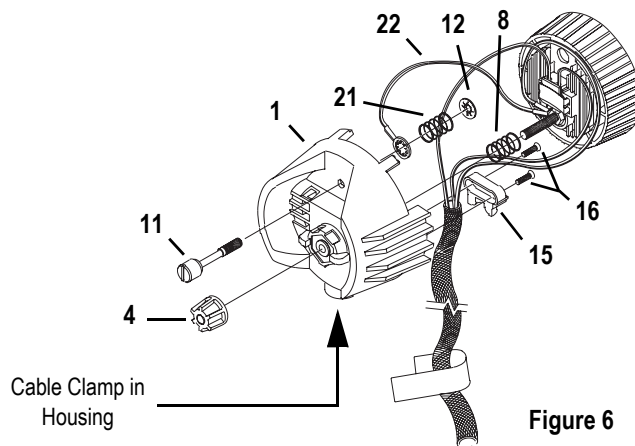

Figure 6
- Step 10: Insert the knurled head screw (11) through the housing socket casting (1) as shown in Figure 6.
- Step 11: Install the shorter green ground wire (22) onto the screw. The prongs on the crimped connector should be toward the casting.
- Step 12: Install the ground spring (21) onto the screw and secure it with the Southco flat retaining ring (12). Install the Southco ring with its prongs away from the casting.
Step 18: Before proceeding, check again to make sure the wires are still positioned as indicated in Figure 6. Adjust if necessary.
Step 19: Press the two castings together firmly so the bottom of the light baffle (2) sits on top of the cable clamp (15), then install the X-Y lampset (3) and Z lamp knob (4). Hand tighten the knob all the way to the right.